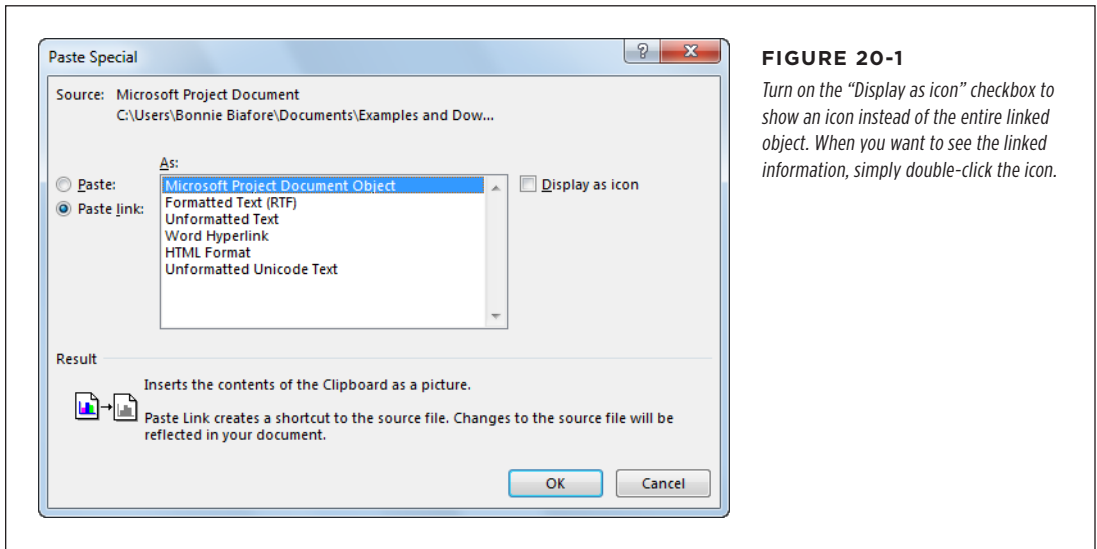

FIGURE 20-1
6. In the Paste Special dialog box, select the “Paste link” option, as illustrated in Figure 20-1.